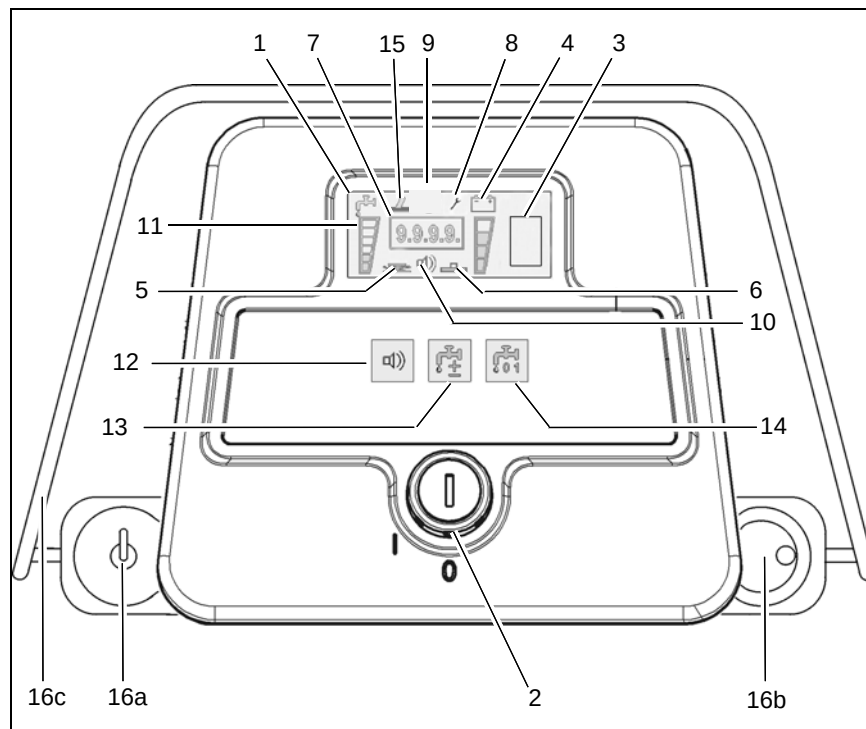

Fig.4
3. Switch on solution supply by means of tip-switch (Fig. 4/14).
4. Adjust solution amount by means of tip-switch (Fig. 4/13). Lower brush deck via pedal (Fig. 3/8). Solution supply and brush deck starts automatically.
5. Use the speed control knob (Fig. 4/16b) to adjust the work speed. Use the direction switch (Fig. 4/16a) to select forward or reverse. Pull the bail handle (Fig. 4/16c) to start moving.
Display (Fig. 4/1)
Battery charge indication (Fig. 4/3)
LDS indicator (Fig. 4/4)
Symbol brush drive (Fig. 4/5)
Symbol suction turbine drive (Fig. 4/6)
Hourmeter (Fig. 4/7)
Service indicator (Fig. 4/8)
free (Fig. 4/9)
(Fig. 4/10)**
Solution dosage symbol (Fig. 4/11)
Silence Kit tip-switch (optional) (Fig. 4/12)
Solution dosage tip-switch (Fig. 4/13)
(Fig. 4/14)**
free (Fig. 4/15)
Drive direction control with speed control knob/bail handle (Fig. 4/16)